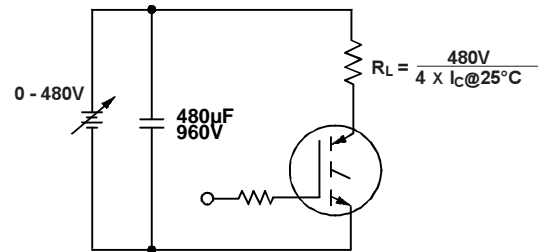

Fig. 13b - Pulsed Collector Current Test Circuit
- ① Repetitive rating; $V_{GE} = 20V$, pulse width limited by max. junction temperature. (See fig. 13b)
- ② $V_{CC} = 80\%(V_{CES}), V_{GE} = 20V, L = TBD \mu H,$